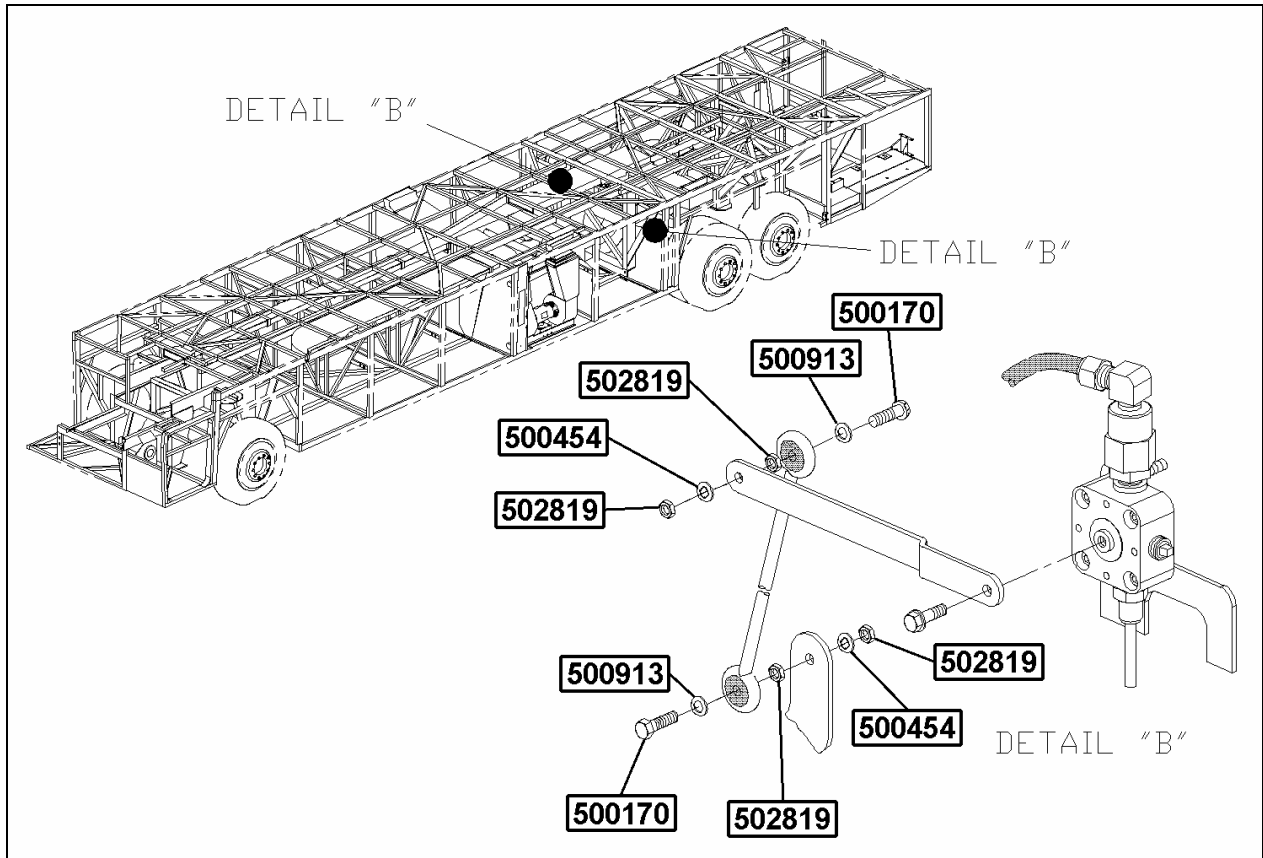

FIGURE 1: TYPICAL INSTALLATION
1. Remove the existing shoulder screw and nuts. Replace with bolt (500170), washer (500913), nuts (502819) and lock washer (500454) as per figure 1.